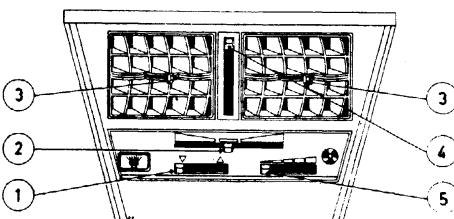

fig. 8
- 15 - Central air-grills opening and adjusting control (fig. 8).**
- 16 - Fan control (fig. 8).**
- 17 - Air-forced temperature regulation (fig. 8).**
- 20 - Leva comando centralina climatizzazione (vedi fig. 8).
- 20 - Levier commande dispositif de climatisation (voir fig. 8).
- 20 - Air-conditioning system lever (fig. 8).
CLIMATIZZAZIONE (fig. 8/1)**
(fig. 8/2)**
CLIMATISATION (fig. 8/1)**
**REGLAGE DE LA TEMPERATURE (fig. 8/2)
(fig. 8/1)**
**TEMPERATURE ADJUSTEMENT (fig. 8/2)
COMANDO GRIGLIE DI AERAZIONE INTERNO ABITACOLO (fig. 8/3)
COMANDO APERTURA E REGOLAZIONE PORTATA DELLE GRIGLIE CENTRALI DI AERAZIONE (fig. 8/4)
COMANDO VENTILATORE (fig. 8/5)
COMMANDE GRILLES D'AERATION INTERIEUR HABITACLE (fig. 8/3)
COMMANDE OUVERTURE ET REGLAGE DEBIT GRILLES CENTRALES D'AERATION (fig. 8/4)
COCKPIT AIR-FLOW GRILLS CONTROL (fig. 8/3)
CENTRAL GRILLS OPENING AND ADJUSTING CONTROL (fig. 8/4)
FAN CONTROL (fig. 8/5)